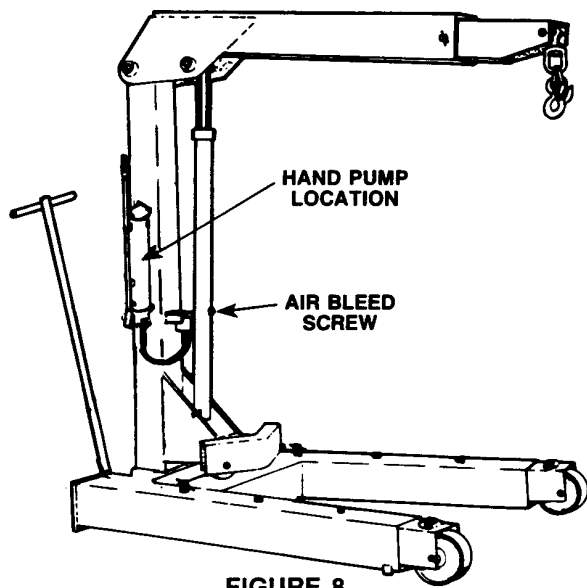

FIGURE 8
14. **IF USING A HAND PUMP**, remove the pipe plug and insert the hose hand tight. Hand tighten the other end of the hose into the 45° elbow located on the crane cylinder. Position the pump outlet port down, and mount the pump on the left side of the crane mast (viewed from the front). See Figure 8. Four 1/4" x 1" lg. cap screws are provided for mounting the hand pump. Wrench tighten all hydraulic fittings.